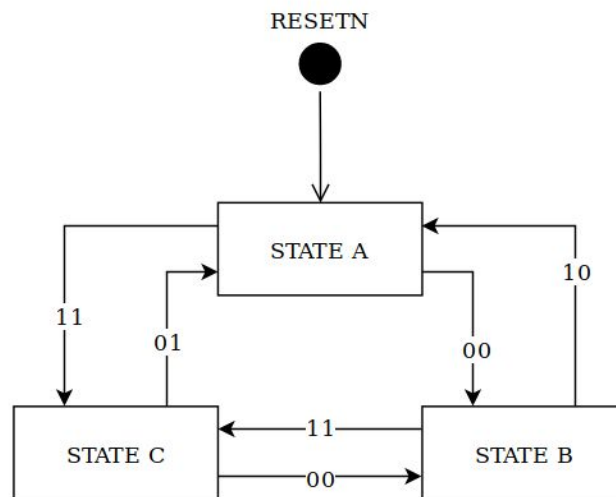

Figure 1. A state machine chart, with three states and 2 inputs
In this lab, we will implement a 3-state state machine represented by the chart in Figure 1. The inputs to this state machine will be a pair of switches, used as digital inputs. The outputs of this state machine will be a set of 3 LEDs, with different patterns depending on the state.
Before writing code, it is often a good idea to draw a chart representing your state machine. Figure 1 depicts one such chart, with arrows representing transitions and boxes representing states. The black circle represents the default state, entered when the system is reset (pressing
2. We will be writing an implementation of the state machine specified in Figure 1. Begin by defining the specified states in the figure.
5. In each `case`, use `if` statements to define the transitions to the next state in accordance with the chart in Figure 1.